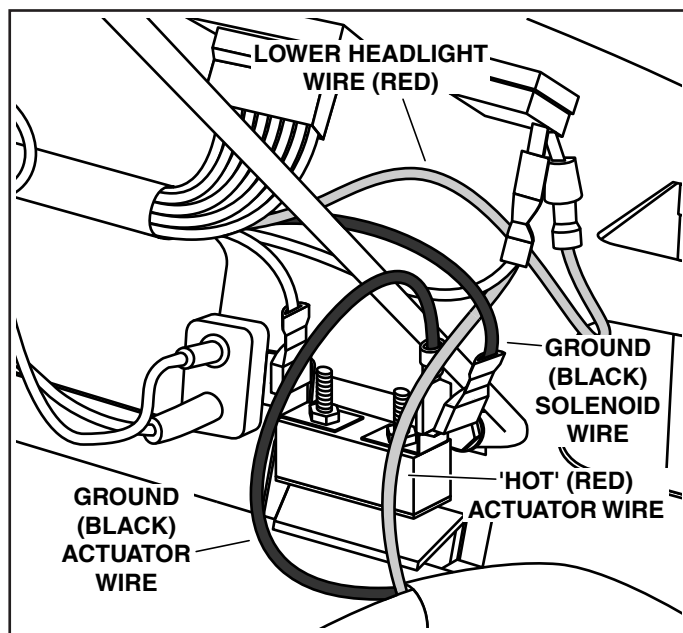

Figure 24.
1. See figure 24. Locate the ground wire (black) attached to the solenoid of the tractor.
2. See figure 24. Unplug the ground wire (black) from the solenoid and plug it into the ground wire (black) from the actuator lift control wiring as shown.
3. See figure 24. Plug the ground wire (black) of the actuator lift control into the solenoid that the ground wire (black) was removed from in step 2.
4. See figure 24. Locate the lower headlight wire (red) attached to the headlight switch in the dash.
5. See figure 24. Unplug the lower headlight wire (red) and plug it into the 'hot' wire (red) of the actuator lift control wiring as shown.
6. See figure 24. Plug the 'hot' wire (red) of the actuator lift control wiring into the headlight switch in the dash that the lower headlight wire was removed from in step 5.